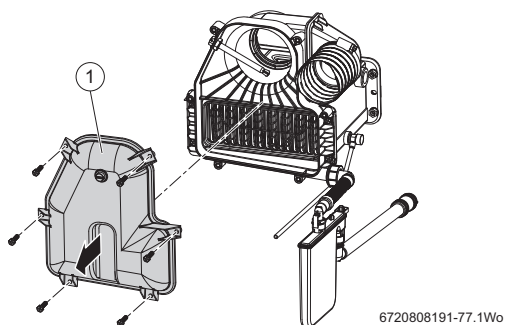

Fig. 56 Access to secondary heat exchanger
Refer to figure 56
- ▶ Refit the flue manifold access cover item [1], figure 56, page 34 and secure with screws.